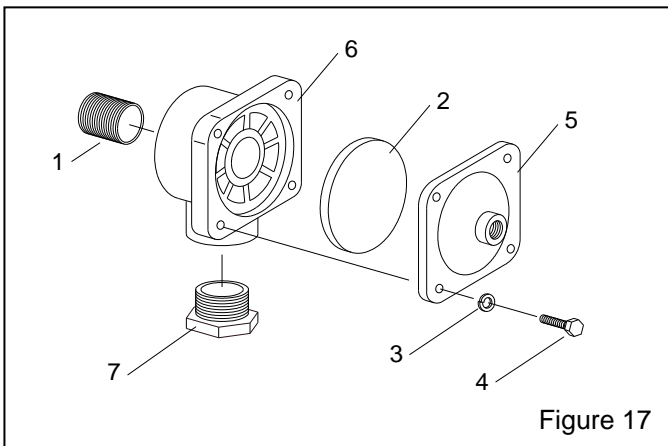

Figure 17
9.4 1" Diaphragm Outlet Valve, Figure 17